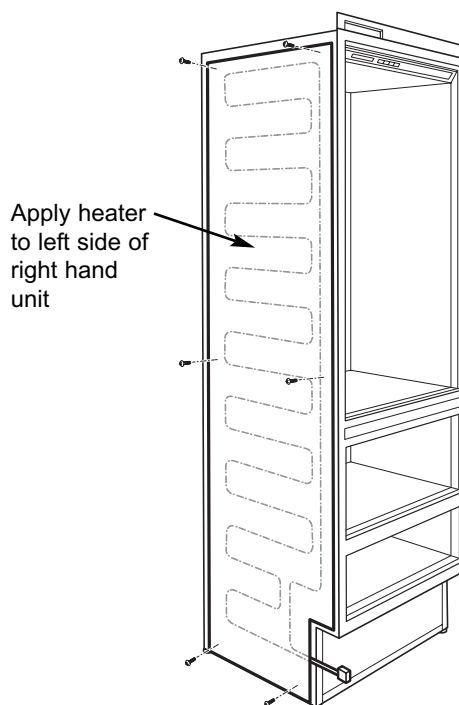

Figure 2-6. Dual Unit Heater (#TTDUAL Shown)
- If two Tall units are installed side by side and are 2" or less apart, part #TTDUAL should be utilized. (See Figure 2-6)